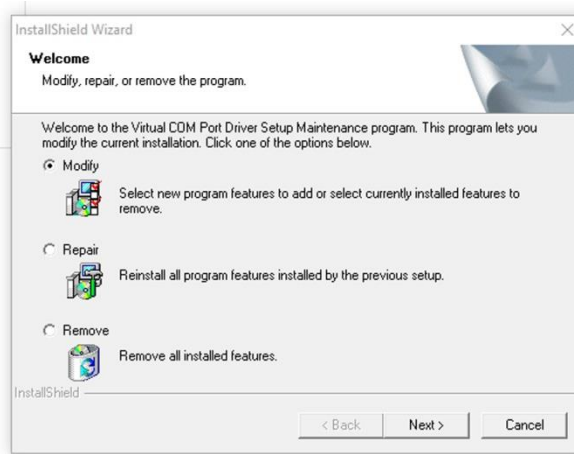

Figure A1.7 – Application setup wizard
1.6. The installation process of the virtual port will begin, which may take some time. In the installation wizard window that appears (Figure A1.7), indicate your actions: